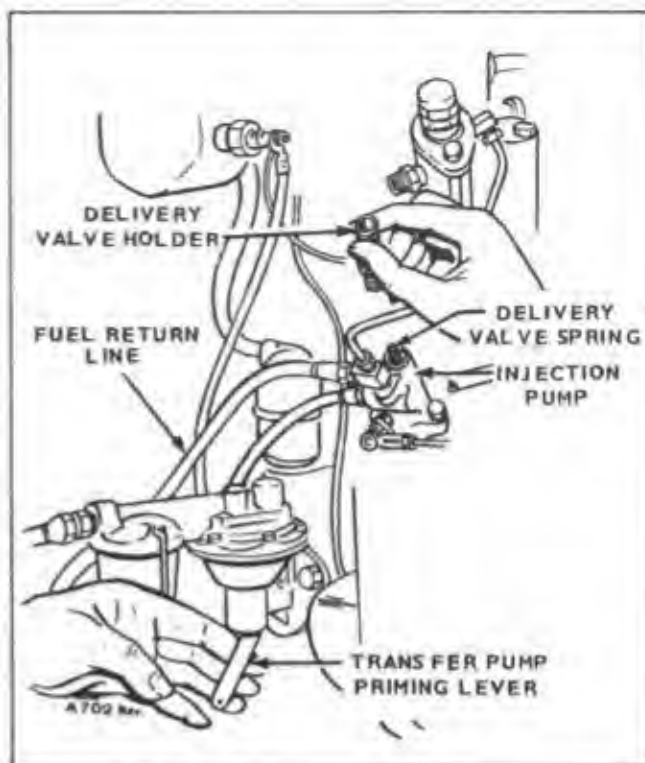

Figure 31. Loosening Delivery Valve Holder
2. Loosen the delivery valve holder to relieve pressure on spring, (Fig. 31).
3. Rotate the flywheel to about 15° before the port closing (PC) point. Blow in the pump inlet and rotate the flywheel slowly clockwise until air stops coming out of the pump outlet. This is the port closing point.